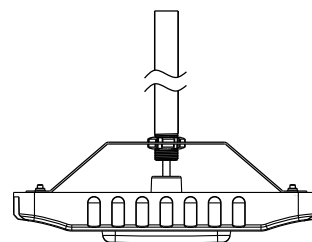

Figure 7
2. Unscrew the nut from customer supplied 3/4" NPT stem, make the stem hole on mounting bracket through 3/4" NPT stem, then screw the nut back to 3/4" NPT and fix it. (Figure 7)